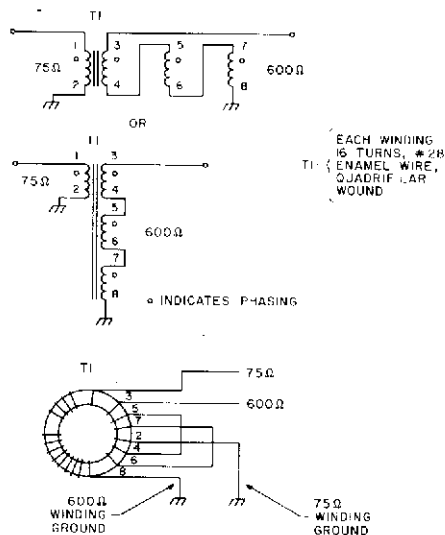

Fig. 5. Transformer winding details.
The transformer was quadrifilar wound (Fig. 5), one winding serving as the 75-Ohm secondary, the other windings connected in series as the 600-Ohm primary. All windings were 16 turns, #28 enamel wire, close-wound (Photo A), on an Indiana General 626-12-Q1 core (available from Permagon Northeast Corp., 10 Fortune Drive, Billerica MA 01865; (617)-273-2890). Each winding had a self-impedance of 375 Ohms (5×75). The core of the transformer had a .75" inner diameter, a 1.25" outer diameter, and a .375" width.